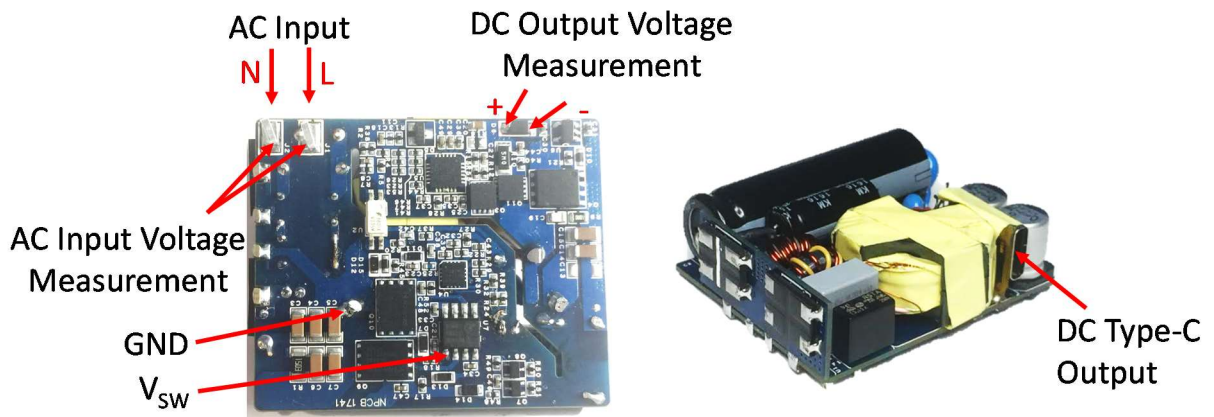

Fig 3c: Connections
Please refer to the connection diagram in Fig 3c.
Switching waveforms can be measured between Vsw and GND (shown in Fig 3c). GaN half-bridge circuits are fast and sensitive to parasitic capacitance introduced by voltage probes.
1. For full load efficiency measurement, connect both input and output voltage meters at board edges (Fig 3c). Run > 15min before measuring.